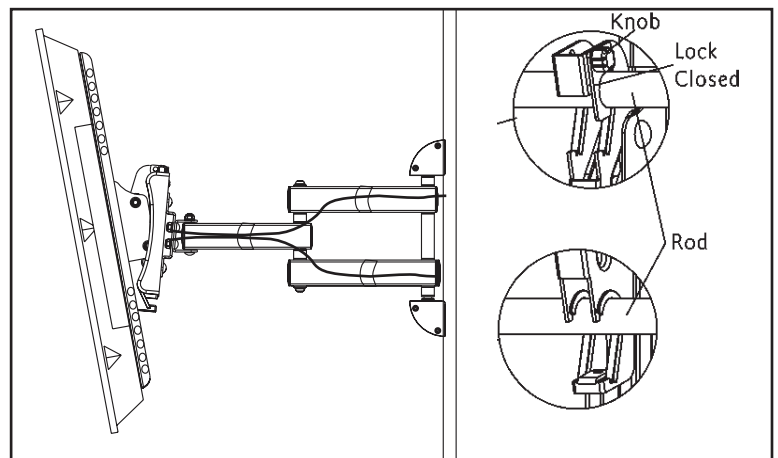

Fig. 5c
4. Rotate the display to let the brackets hook over the bottom bar of the mount. Close the safety locks to secure the display as shown in (Fig. 5c).